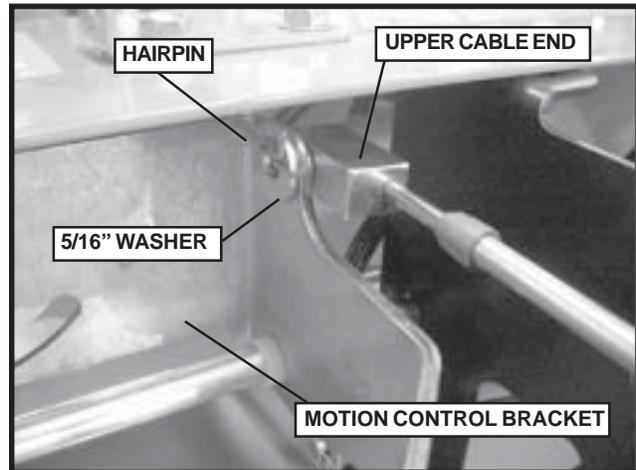

FIGURE 6
9. Remove the upper cable end from the motion control bracket. See Figure 6.